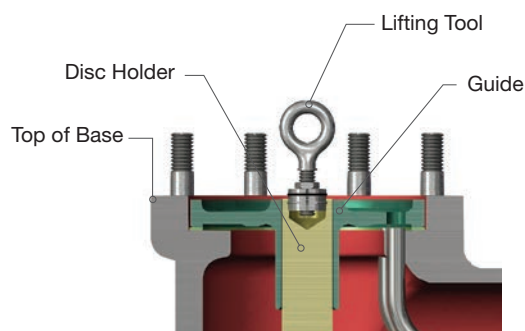

Figure 14: Lifting Tools for M through U Orifice Valves
- Use a screwdriver to compress the spindle retainer (16).
- Remove the spindle (15).
- Insert the lifting tool (see Figure 14) into the disc holder spindle pocket and tighten the eyebolt.
- Remove the disc holder (8) and disc (6) by lifting up on the lifting tool.
- Use the lifting lugs to lift the disc holder (8) and to remove all internals (see Figure 14).